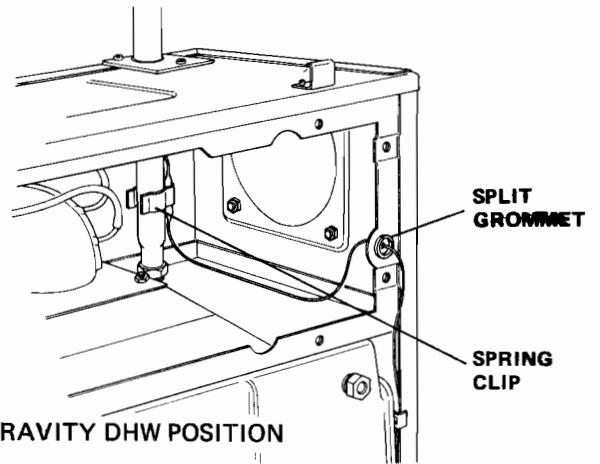

FIG. 21B GRAVITY DHW POSITION
3. Remove split grommet at the top right hand side of the casing (Fig. 21B).